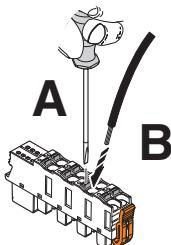

Figure 8-3 Connecting a stranded cable
- Open the spring by pressing the screwdriver onto the spring lever (Figure 8-3, A). Use, for example, a bladed screwdriver with a blade width of 2.5 mm. Phoenix Contact recommends the SZS 0,4x2,5 screwdriver (see Section “Ordering data” on page 138).
- Insert the cable in the terminal point (B).